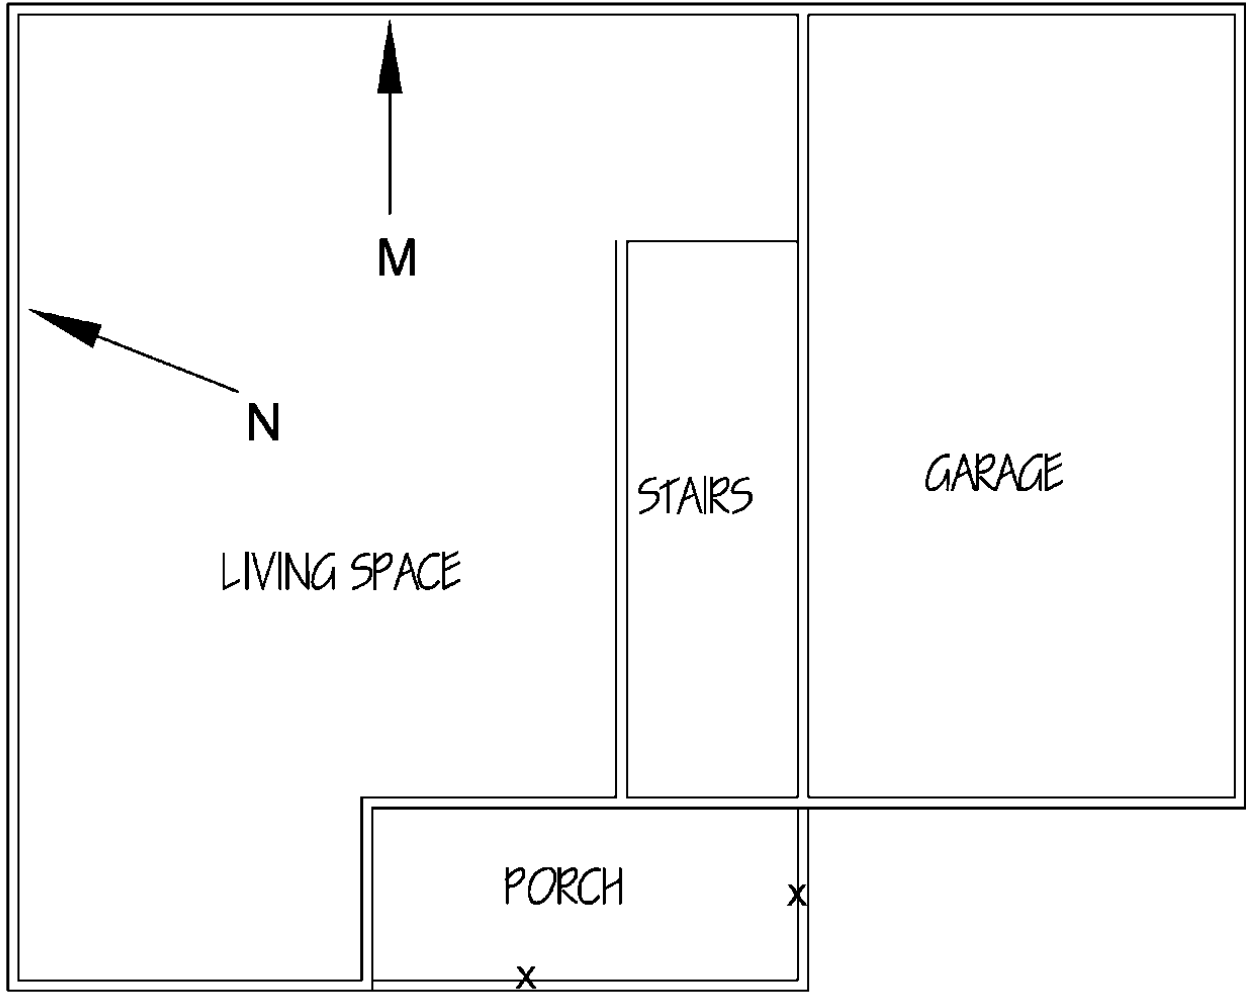

Fig 1-16
This will trim the line to the lower intersection of the lines as in Fig 1-16.
Use the **Trim** tool, position the cursor box over the lines in the rest of the corners, and trim the lines so that they all look like **Fig 1-16**. Remember to hit the enter key **<e>** **immediately after clicking** on the **trim button**.
Your working drawing should now look like Fig 1-16 (minus the text—the text is for temporary reference).
**Erase** the **lines** marked with **X's** in **Fig 1-16**. Click on them and then click the right button on the mouse. Select **Erase** from the menu that appears.
Click on the **Offset** button (Home tab/Modify palette). Type **24 <e>** (this will indicate inches—the default). Click on the inside line of the wall at the top of the living space shown as **M** in **Fig 1-16**. Move the cursor down and **click inside** the living space. Repeat the process with the wall to the left of the living space (**N** in Fig 1-16). **Esc**.